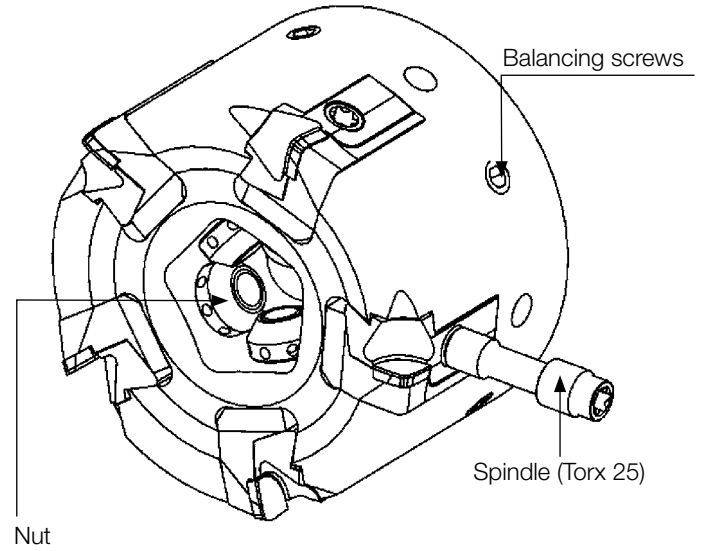
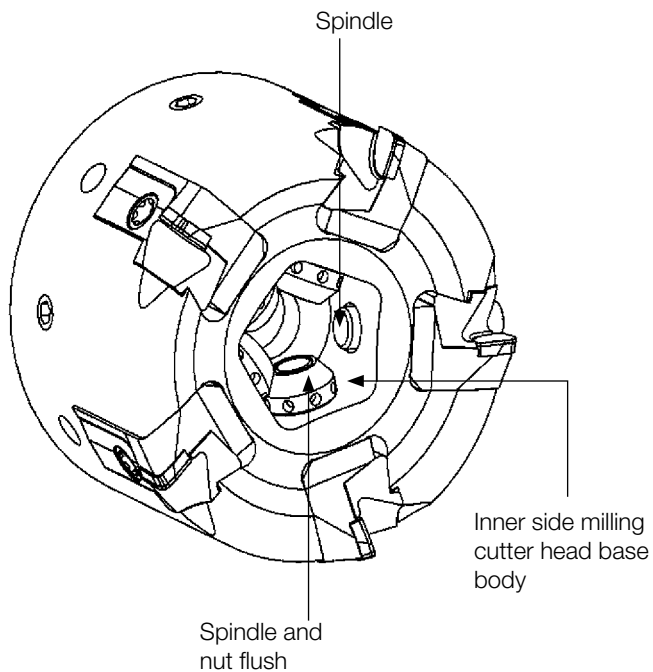

FIG. 4
FIG. 5
- From the outer side, screw the spindle (lightly grease both threads with Molykote® assembly paste G-N Plus) anti-clockwise into the clamping wedge (fig. 4) until the spindle projects into the inside of the milling head base body by approx. 2 threads (fig. 5). Position the nut on this thread and screw the nut on by turning the spindle clockwise. Now screw the spindle in further anti-clockwise, whilst constantly re-positioning the nut clockwise (screwing onto the spindle) until the spindle towards the centre is level with the nut (the re-positioning of the nut can be simplified via the bores on the external diameter of the nut with the help of a small pen key or similar).